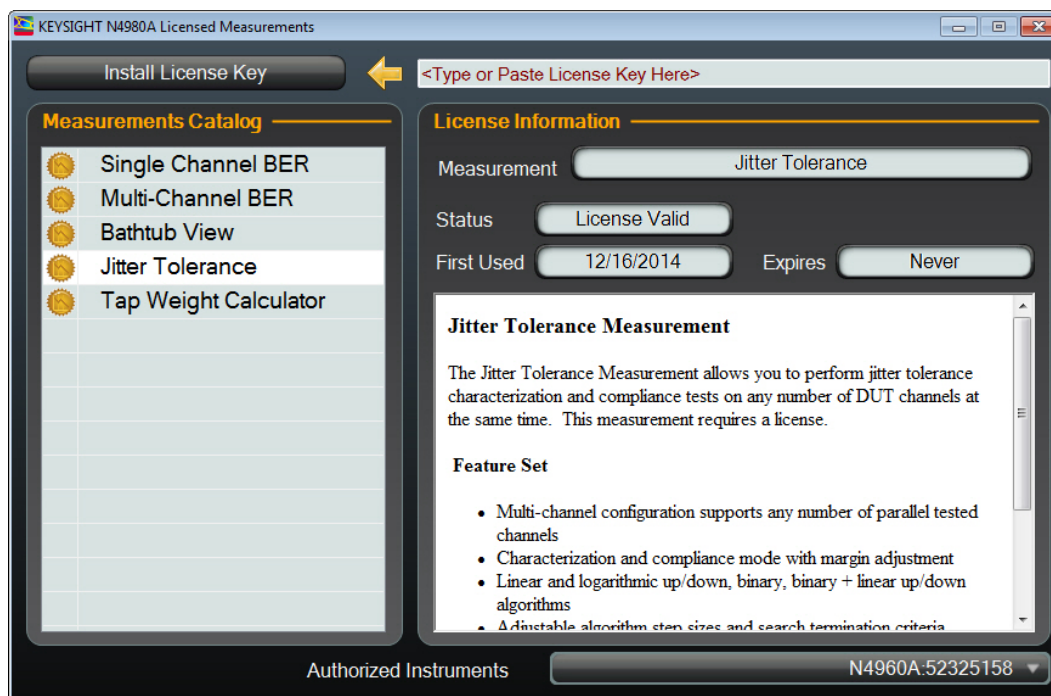

Figure 63. Licensed measurements screen
3. In the main screen, click on the **Tools** menu then click on **Licensed Measurements...** to access the **Measurements** screen as shown in Figure 63.
6. Click on the Install License Key button. After the license key has been entered, the message in the Status text box changes to License Valid and the instrument model and serial number contained in the license is added to the authorized instruments list. Select the newly added instrument from the list, and the License #, First Used, and Expires information is displayed as shown in Figure 63.